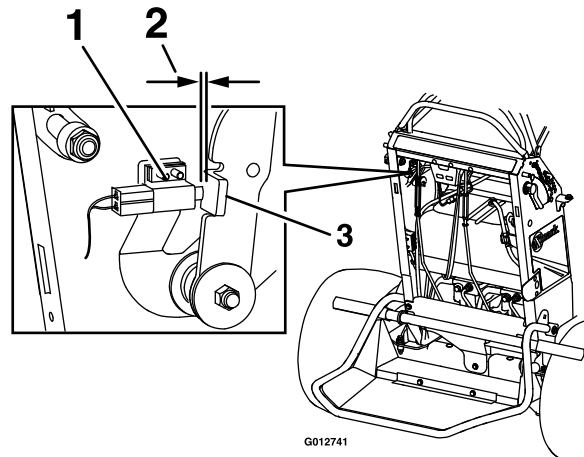

Figure 29
11. Check the gap between the brake lever and the switch as shown in Figure 29. The gap needs to be an 1/8 inch (3mm) with the brake engaged.